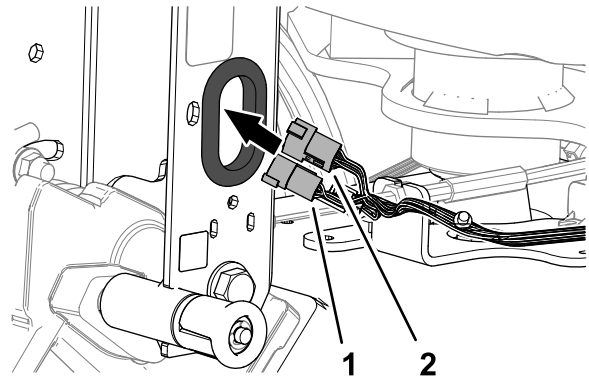

**Figure 8**
1. Route the 6-pin connector and the 12-pin connector of the machine wire harness through the grommet in the handle-bar channel (Figure 8).